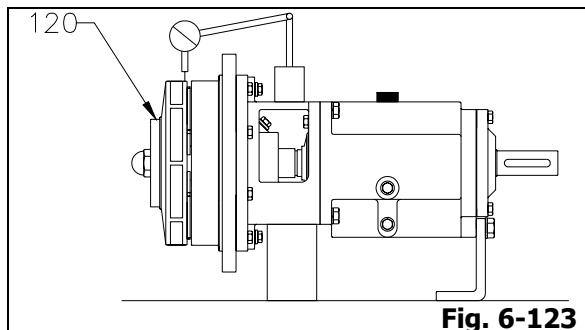

Fig. 6-123
- Check impeller (120) run out. Rotate impeller (120) through 360°. If total indicator reading is greater than 0.13mm, determine cause and correct before proceeding (Fig. 6-123).